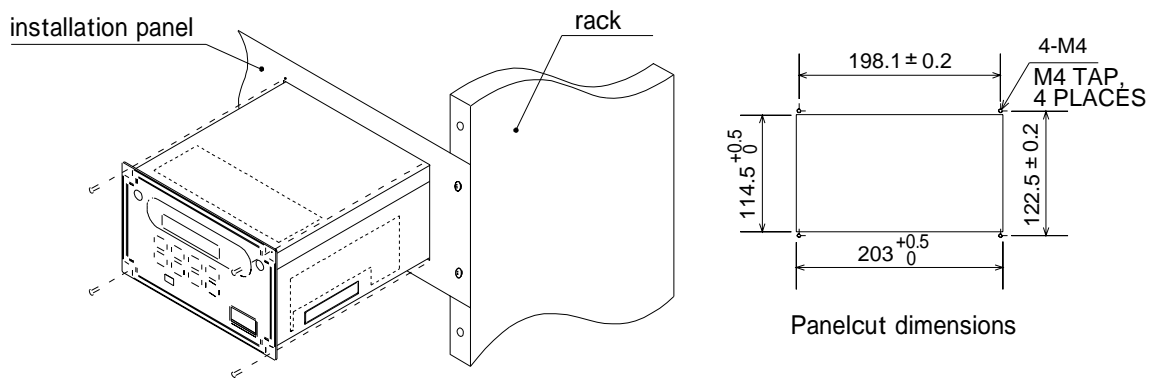

Fig.5-2 Mount the power supply unit
- (1) Turn the power supply unit over and remove the four rubber pads.
- (2) Pass the power supply unit through the cutout hole in the installation panel and secure it with four screws (See Fig. 5-2).